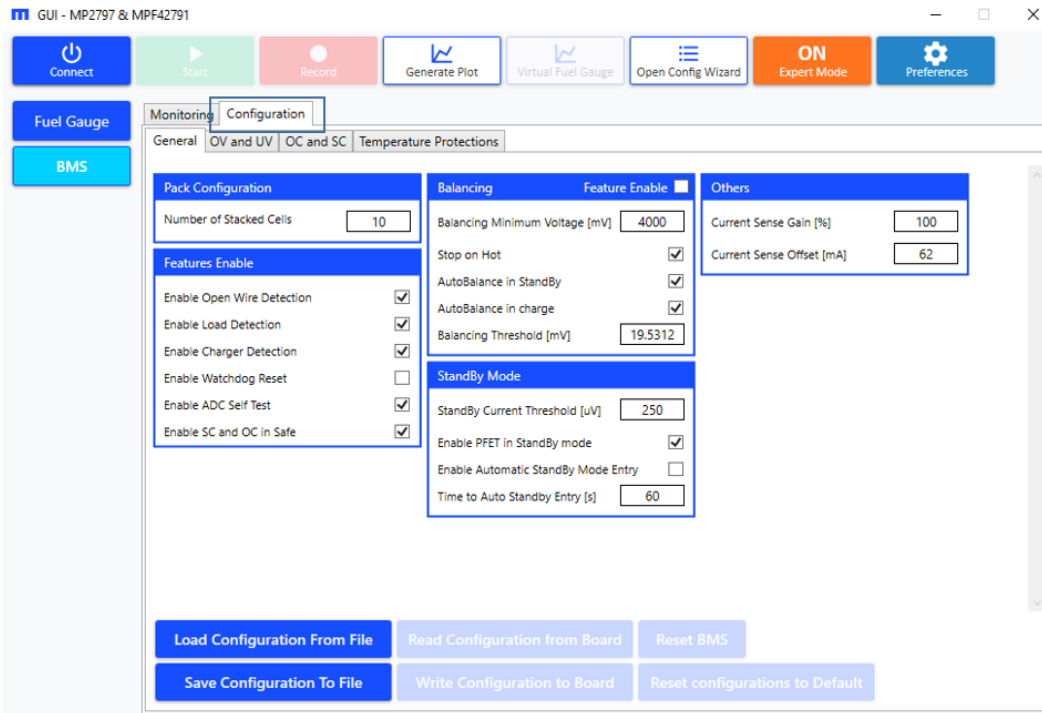

Figure 46: BMS Configuration
2. Select the Configuration tab (see Figure 46).
2. Select the Configuration tab (see Figure 46 on page 35).